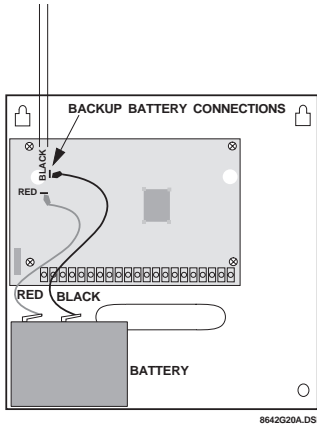

FIGURE 2-14. Connecting the Backup Battery to the Panel.
1. Connect the red (+) and black (-) battery leads (included with panel) to the + and - lugs located in the upper-left area of the panel circuit board (see Figure 2-14).